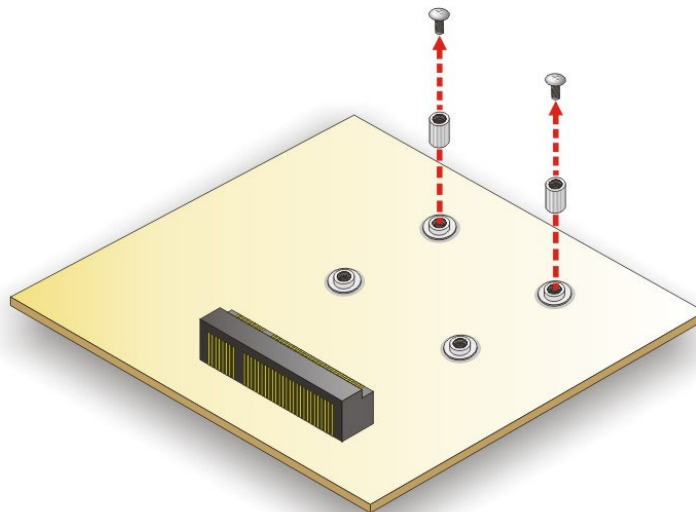

Figure 3-18: Removing the Retention Screws and Standoffs
Step 4: Remove the retention screws and the standoffs secured on the motherboard as shown in **Figure 3-18**.